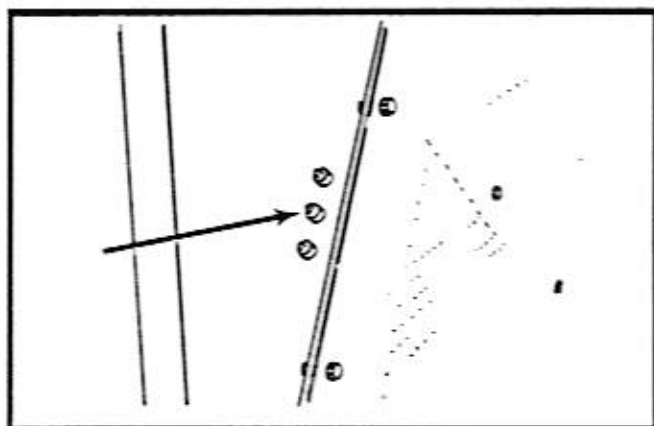

Figure 9-8. Drum Drive Belt Adjuster
Lubricate each of the three (3) fittings with two (2) shots of MPG-EP grease. There are three fittings on the outside of the belt guard. Refer to Figure 9-8.